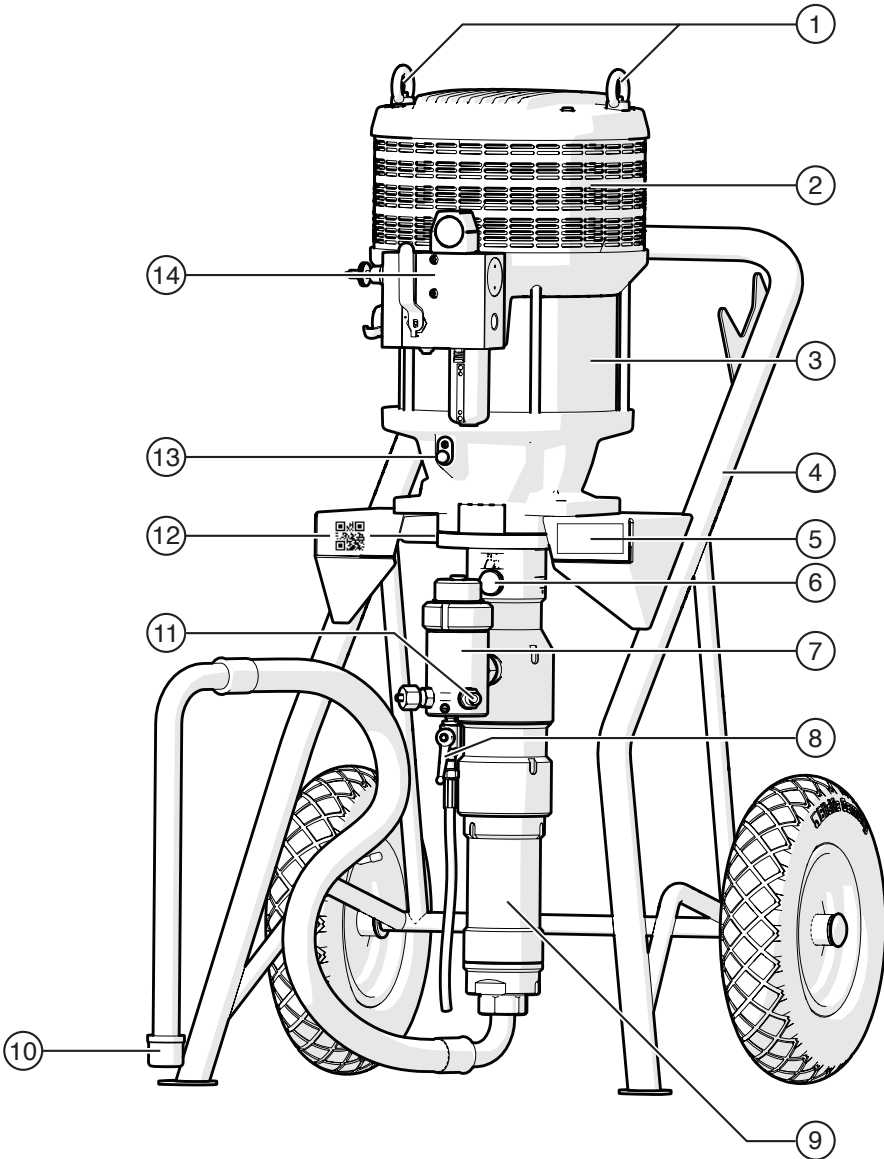

Fig. 7 Airless LM 270 (here on cart)
- To lift the high pressure pump, attach suitable lifting gear to the lifting eyes supplied (see Fig. 7 no. 1). The lifting eyes are only designed for the weight of the high pressure pump. Do not use them to lift the entire equipment (including accessories, hoses or frame)!